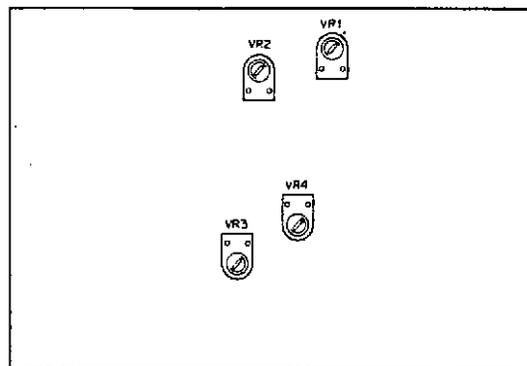

Fig. 28 AF-AVR unit
- 3) Turn OFF RIT switch and adjust VR2 in AF AVR unit (X49-1080-00) until the beat frequency is kept unchanged when RIT switch is turned ON and OFF (refer to Fig. 28).